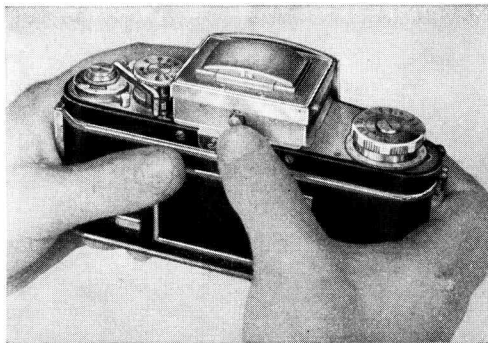

Fig. 7
Press knob (16) and the finder-hood (11) opens automatically (Fig. 7). For a detailed description of its use and the various possibilities for observing the image see chapter E (page 16). We mention here its most important features only: The ground glass image is strictly identical with the future photograph. Therefore the ground glass image is the decisive factor in successful picture taking: composition, framing, critical focusing, lens aperture, even the degree of brightness of the ground glass image permits to determine the exposure time fairly accurately. — If there is no image visible in the finder-hood, the filmtransport lever (6) is to be wound once, clockwise, as far as it will go (Fig. 8). Don't let recoil the lever, but retard the retrograde movement with your left thumb.